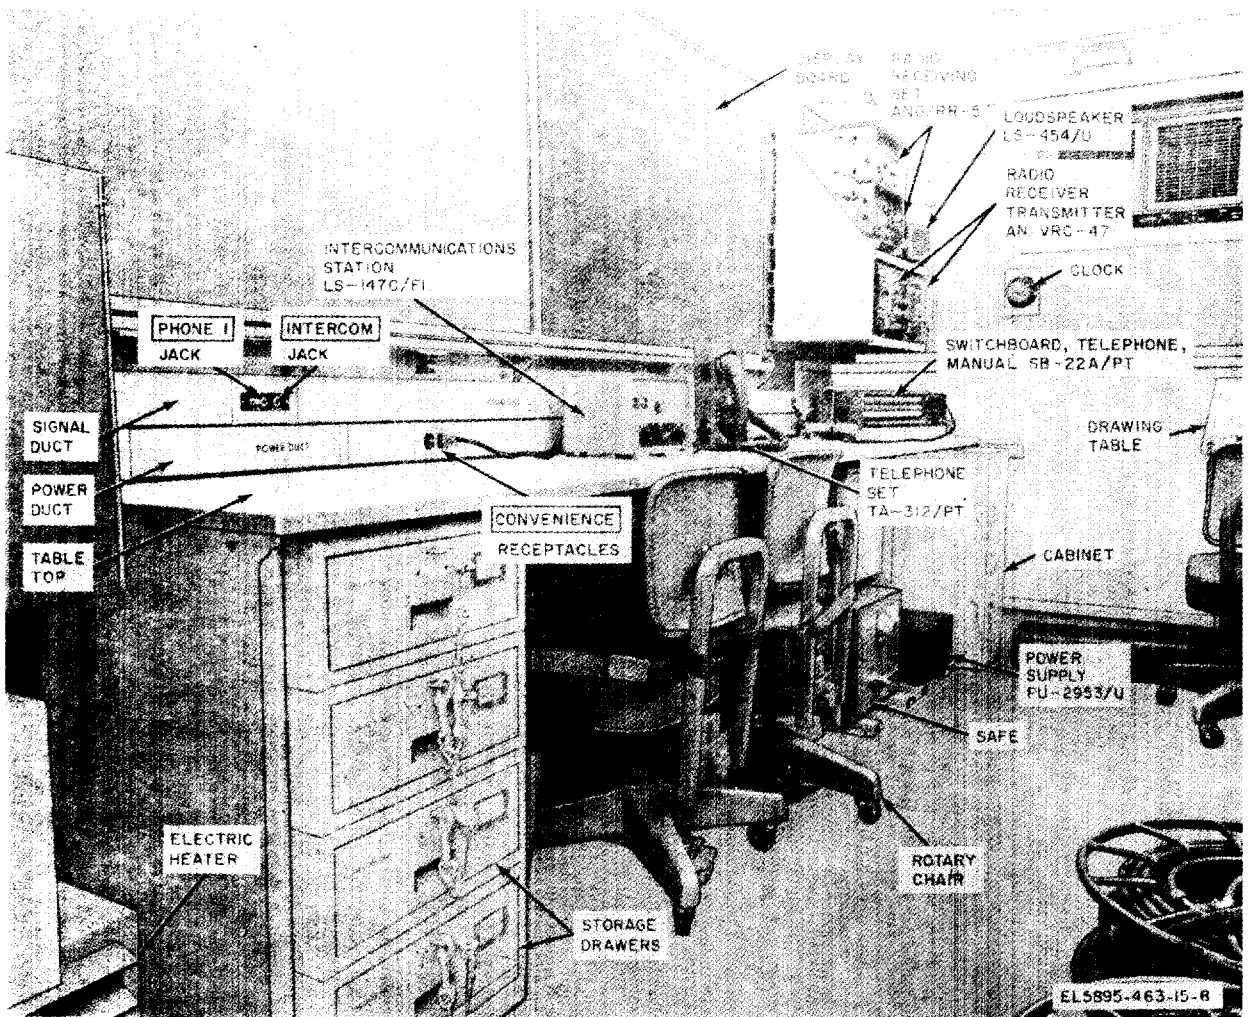

Figure 1-8. Operations Center, Communications AN/MS-13A, interior roadside view.
(3) *Intercommunication Station LS-147C/F1 (fig. 1-8).* The LS-147C/F1 (TM 11-5830-221-12) provides two-way, non-